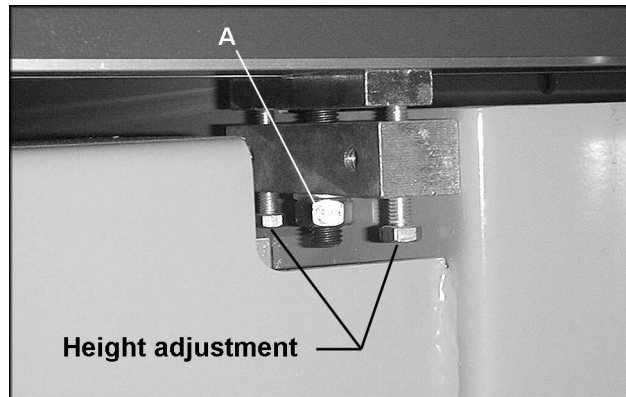

Fig. 37
1. At the end you have decided to move, loosen the hex nut (A-Fig. 37) holding the sliding table to the frame.
NOTE: The sliding table should be approximately 0.3 mm higher than the fixed cast iron table (thickness of a piece of paper). This is pre-set at the factory, but if adjustment should ever be needed, use the four height adjustment bolts (Fig. 37) on each end of the table.